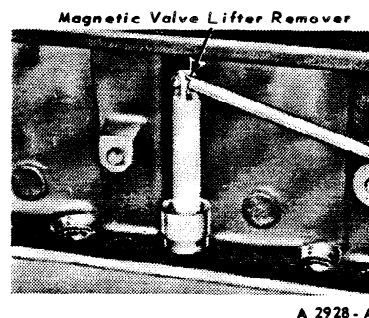

FIG. 35 Removing or Installing Valve Lifters
- Loosen the rocker arm stud nut(s) until the rocker arm(s) can be disengaged from the push rod(s). Remove the push rod(s). Remove the valve lifter(s) with the tool shown in Figure 35. If more than one push rod and valve lifter is removed, do it in sequence and place the parts in a rack so they can be installed in their original locations.
- Apply Lubriplate to the cam lobe contact surface of the valve lifter(s). Coat the rest of the valve lifter(s) with engine oil. Install the valve lifters with the tool shown in Figure 35.
10. Remove the valve push rod cover; then remove the valve lifters in sequence, using the tool shown in Figure 35. Place the valve lifters in a tray or rack to facilitate installation in the same sequence in which they were removed.
8. Lubricate the valve lifters with heavy SE engine oil and install the lifters (Figure 35) in the same bores from which they were removed. Apply Lubriplate to both ends of the push rods and install the push rods in the same sequence that they were removed. Be sure the push rods were seated in the valve lifter sockets.